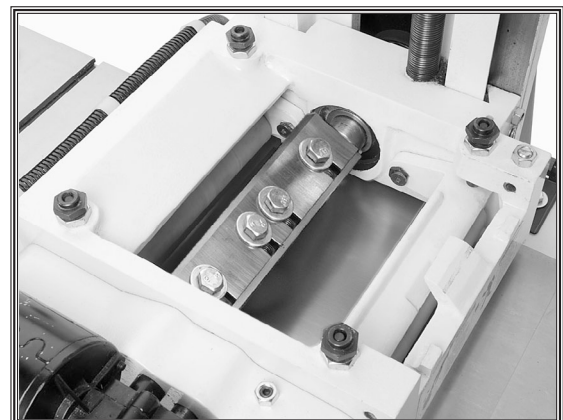

Figure 22. Planer knives installed.
7. Visually inspect to make sure that the planer blade did not move away from the cutterhead lip (**Figure 22**) during the tightening process. If so, reinstall the blade until it is correctly seated.